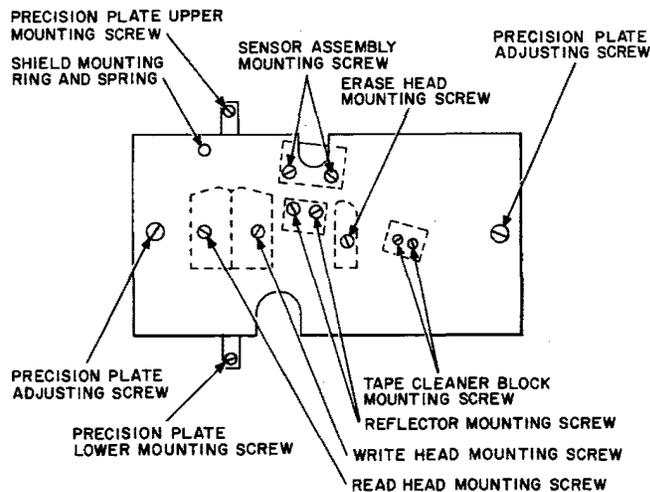

Fig. 16—Precision Plate Assembly (L1 and L2 Recorders)—Rear View Showing Component Mounting Screws
- (4) Disconnect J4 and P5.
- (5) Remove the precision plate adjusting screws using the 3-inch C screwdriver (Fig. 16) to prevent screw damage.
- (6) Remove the lower precision plate mounting screw and washer first using the 4-inch C screwdriver.
- (7) While supporting the precision plate assembly, remove the upper plate assembly mounting screw and washer.
- (8) Very gently remove the precision plate assembly.
- (9) Carefully inspect the replacement precision plate mounting surfaces and the transport casting mounting surfaces. Remove all burrs and dirt prior to mounting the assembly.
- (10) Mount the precision plate assembly in reverse order of removal.
- (11) Perform the static skew requirements check and adjustment in accordance with Section 034-369-701.
- (1) Remove the precision plate assembly in accordance with (a).
- (2) Using the 3-inch C screwdriver, gently remove the write head mounting screw from the back of the plate (Fig. 16).
- (3) Gently lift the write head outward.
- (4) Carefully inspect the replacement write head mounting surface and plate mounting surface for burrs and dirt. Remove all dirt prior to mounting the replacement write head.
- (5) Mount the replacement write head in reverse order of removal.
- (6) Remount the precision plate assembly in accordance with (a).
- (7) Perform the following requirement checks and adjustments in accordance with Section 034-369-701:
- (3) While supporting the erase head, gently remove the erase head mounting screw using the KS-6854 screwdriver. (See Fig. 16 or 17.)
- (4) Remove the erase head by guiding the associated leads through the cutaway hole.
- (5) Carefully inspect the replacement erase head mounting surface and the precision plate mounting surface. Remove all burrs and dirt before mounting the replacement erase head.
- (6) Mount the replacement erase head in reverse order of removal.
remove the tape cleaner block mounting screws (Fig. 16 or 17) using the KS-6854 screwdriver.
- (3) While supporting the sensor assembly, gently remove the assembly mounting screws (Fig. 16 or 17) using the 3-inch C screwdriver.
- (4) Remove the sensor assembly by guiding the associated leads through the hole.
- (5) Carefully inspect the replacement assembly mounting surface and the precision plate mounting surface. Remove all burrs and dirt prior to mounting the replacement assembly.
- (6) Mount the assembly in reverse order of removal.
- (7) Perform the static skew requirement check and adjustment in accordance with Section 034-369-701.
- (8) Perform the EOT/BOT sensor requirement check in accordance with Section 034-369-701.
- (1) Remove any tape reel from the transport.
- (2) From the back of the transport and while supporting the reflector, remove the reflector mounting screws (Fig. 16 or 17) using the 3-inch screwdriver.
- (3) Carefully inspect the replacement reflector mounting surface and the precision plate mounting surface. Remove all burrs and dirt prior to mounting the replacement.
- (4) Mount the replacement reflector in reverse order of removal, making sure that the mounting holes are toward the top of the transport.